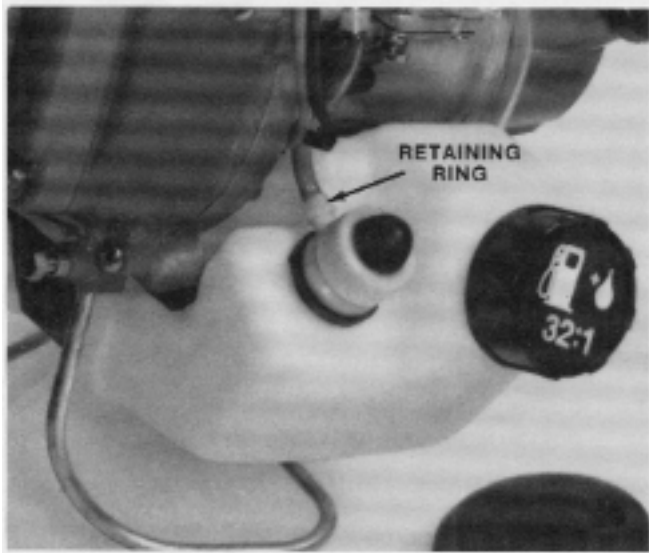

Figure 38
- Slide the retaining ring onto the fuel line, then push the line onto the fitting near the primer bulb. Slide the retainer ring down, over the fitting, to secure the line. See Figure 38.